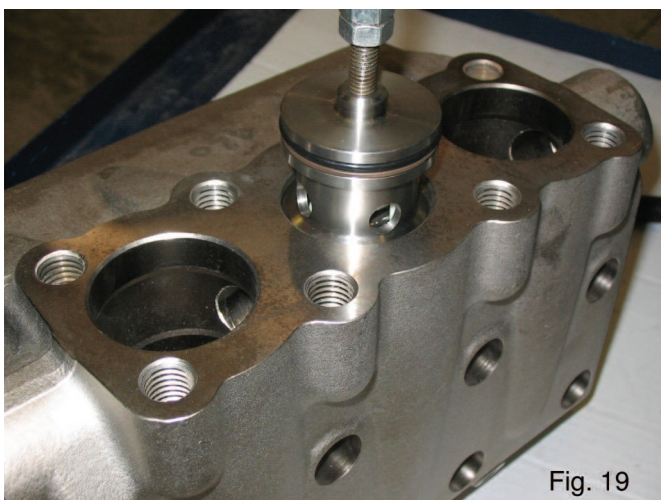

Fig. 19
- B) Extract the valve plugs with an extractor or a M8 threaded rod (see Fig. 19).